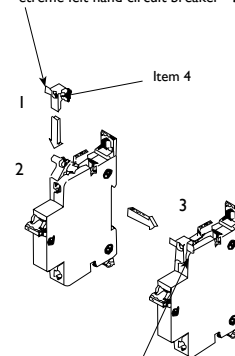

Figure 3
3. Clip mounting nut (item 4) into each circuit breaker (figure 3).